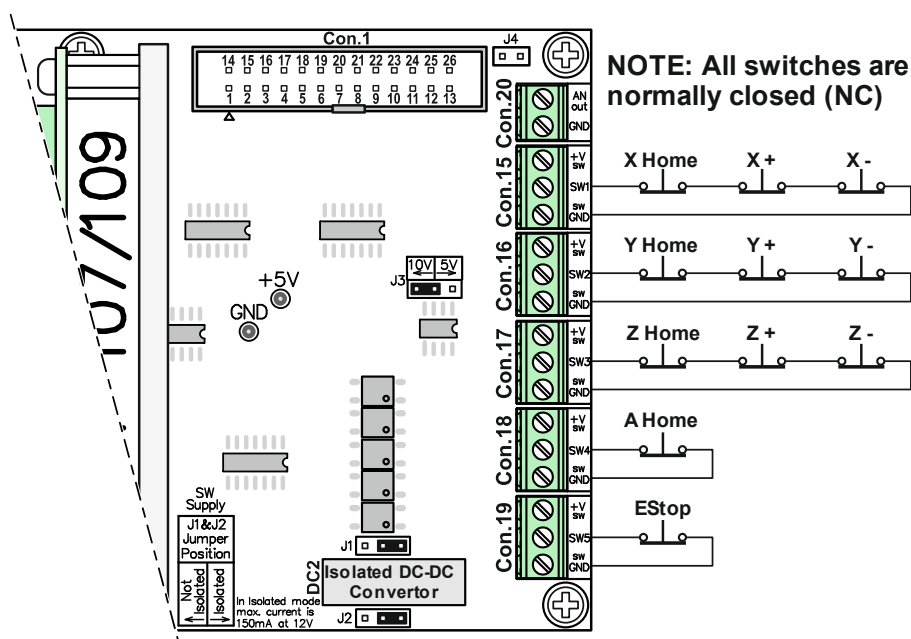

Figure 4.4 Connecting electro-mechanical limit switches to the SMCU4 control unit
The recommended way of connecting the limit switches of the electro-mechanical type is given in Figure 4.4. The given example implies the use of switches of the Normally Closed (NC) type. In this way, it is possible to connect several limit switches to one digital input line. Using the NC type of switch is also better from the safety aspect, considering that a possible disconnection and loss of connection of one of the switches will be detected as a change of logical state on that digital input.